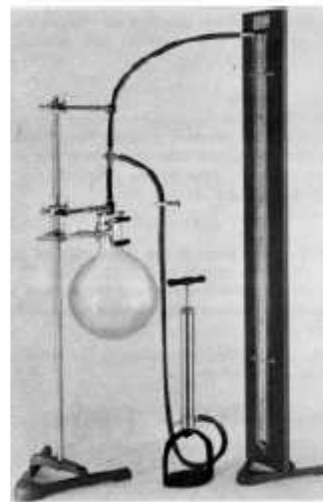

Fig. 2. Apparatus for determining the ratio of specific heats of air.
**APPARATUS:** The apparatus consists essentially of a large Pyrex flask the top of which is ground plane, a cover plate of metal also ground plane and provided with a hose nipple, a manometer with light oil or xylol as the indicating liquid, a three-way or T-connecting tube and a small pressure pump with rubber tubing for making the connections (Fig. 2). A small amount of some drying agent such as Dessigel S is needed in the flask to eliminate any water vapor present in the atmosphere.
Stopcock grease and a small rod in a clamp with a rubber stopper on one end are required to ensure an airtight seal between the top of the flask and the plate. The pressure pump shown in Fig. 2 may be replaced by the rubber pressure bulb shown in Fig. 3. A large stand and clamps for holding the flask and a pinchcock for preventing any air leak through the pump are required.
amount of drying agent in the flask and mount the apparatus as shown in Fig. 2. Place a liberal supply of stopcock grease over the ground portion of the top of